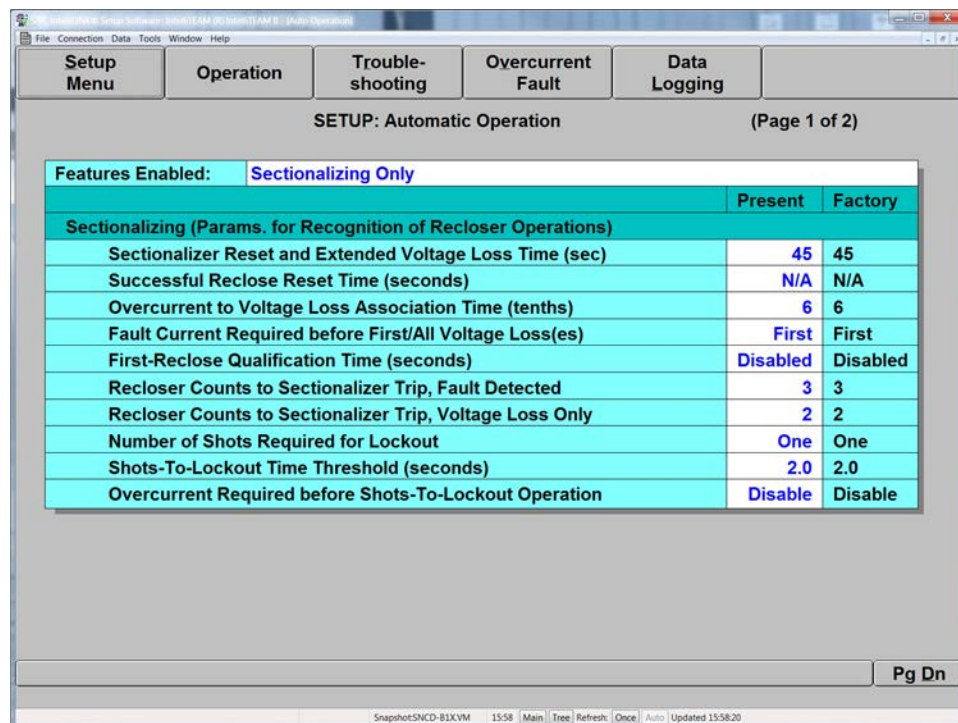

Figure 15. The *Setup>Automatic Operation* screen, Page 1 for a 5801 control.
STEP 7. At the *Setup Menu* screen, click on the **Automatic Operation** button to display the *Setup>Automatic Operation* screen. See Figure 15. Enter the correct values for the parameters for this switch control.